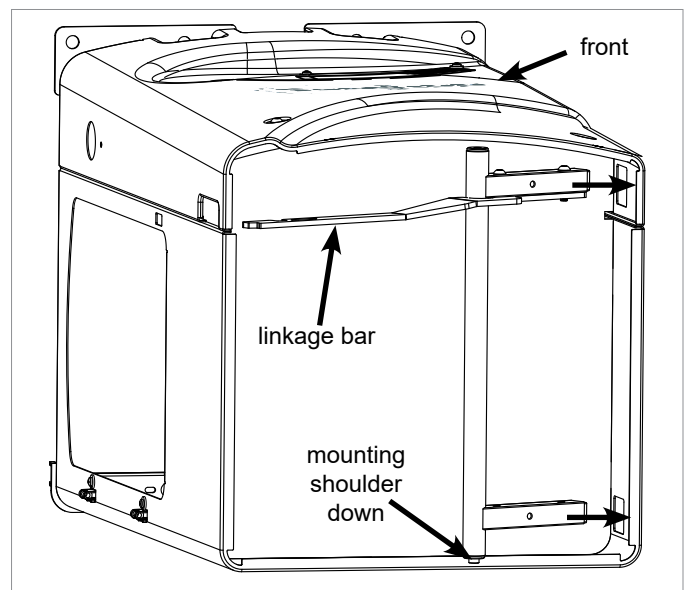

Fig. 4
4. With the saw resting on the packaging, facing up and overhanging the edge, place the ends of the two caster support arms through the two holes in the inside right face of the saw, as shown in Fig. 4. Make sure that the caster support is oriented so that the linkage bar is next to the front of the cabinet.